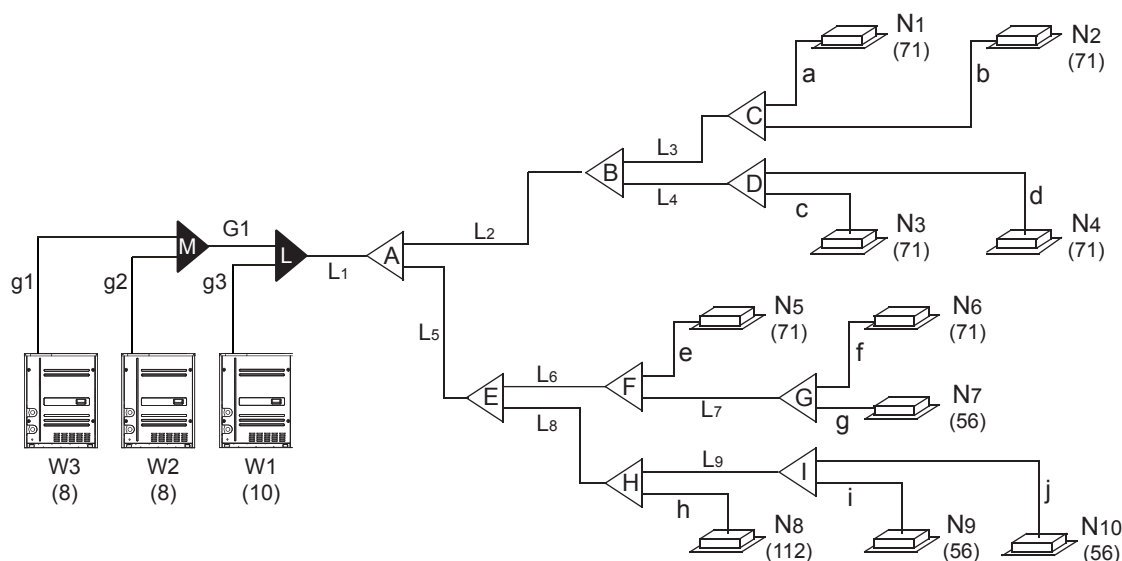

Fig.6-4
- 2) Take Fig.6-4 as an example. Provided that the equivalent length of all pipes in this system is larger than 90m.